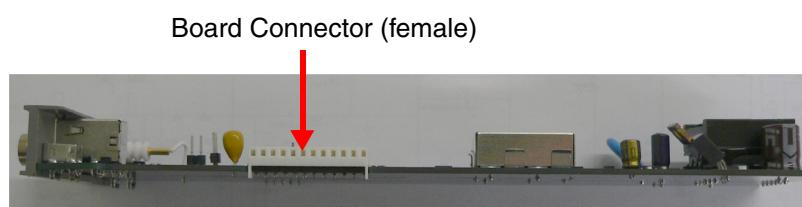

Figure 4-4 Sensor Board Connector: Bottom View
- b. Guide the board down as straight as possible onto the connector on the main board. Figure 4-4 shows the connector on the base of all three board types.